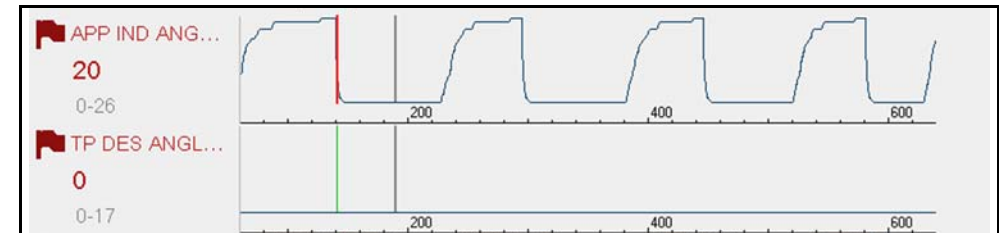

Figure 8-13 Triggers activated
- A red cursor line is displayed on the graph (Figure 8-13) of the PID with the activated trigger to indicate where the trigger occurred.